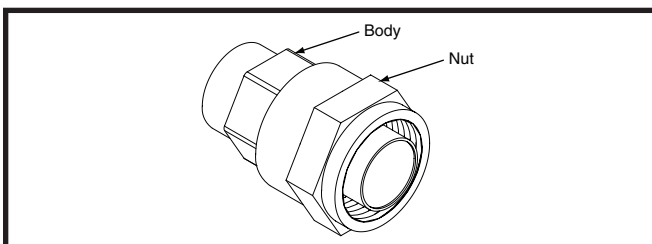

Figure 6. Female Coupling Assembly
6. While holding the coupling halves in proper alignment with each other, start twisting the threads of the female coupling nut onto the male coupling assembly. **NOTE:** The coupling end faces should be parallel with each other and visually aligned. This allows the female coupling nut (Figure 6) to be easily hand threaded for the initial 2-3 rotations. These initial rotations will bring the diaphragms into contact and a sharp increase in torque will be felt.